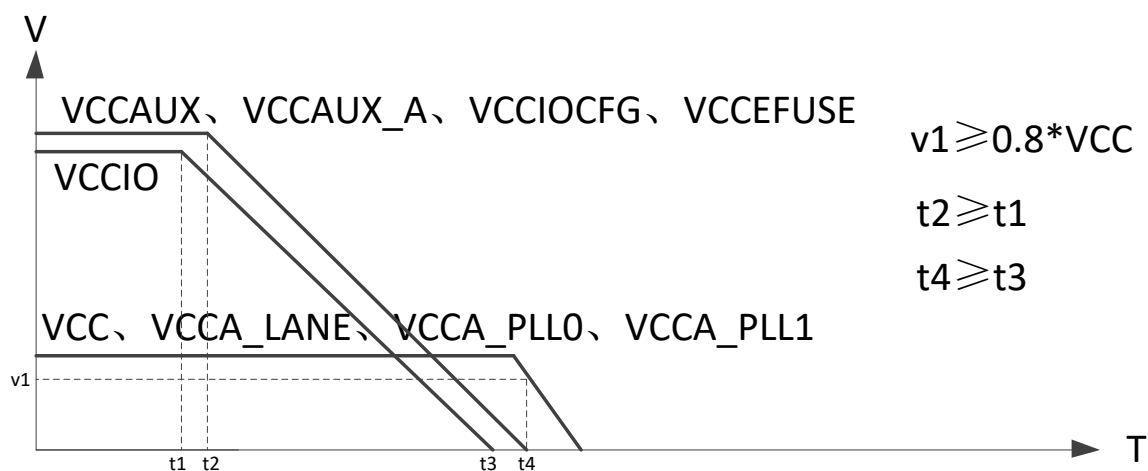

Figure 2-2 Recommended Power-down Timing
4. Recommended Power-down timing is shown in Figure 2-2;